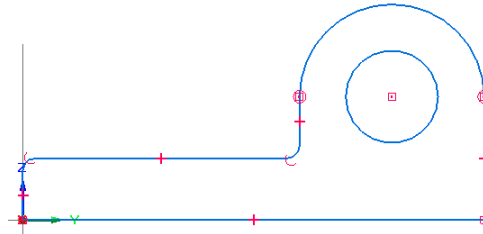

Figure 2-47 Final profile for Tutorial 1
4. Move the cursor over the center point of the arc and click to define this point as the center point of the circle when the concentric relationship handle is displayed. This completes the profile. The final profile for Tutorial 1 is shown in Figure 2-47.